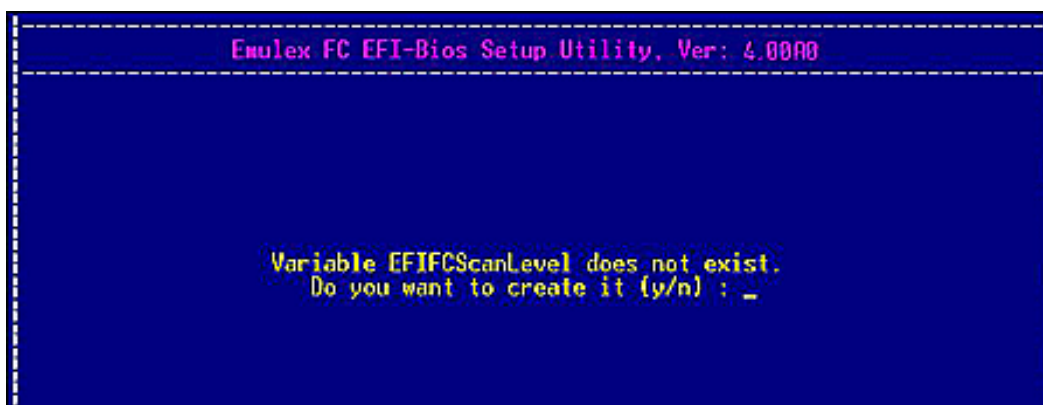

Figure 6-19 No Existing EFIFCScanLevel Variable Screen
- If the EFIFCScanLevel variable does not exist in the EFI BIOS NVRAM store, the EFIBoot configuration utility prompts you to create it, as shown in Figure 6-19.